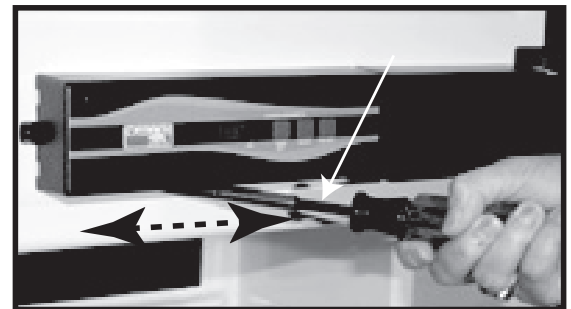

Figure 6. Testing light switch operation.
1. Slide a magnetic screwdriver tip or a small magnet on the underside of the optical control assembly as shown in Figure 6.